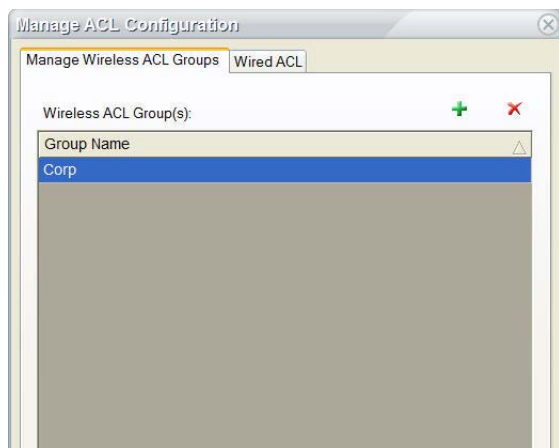

Figure 4-26: The Manage ACL Groups dialog box
- 1) From the AirMagnet Enterprise Console screen, click **Manage>ACL....** The Manage ACL Groups dialog box appears. See Figure 4-26.